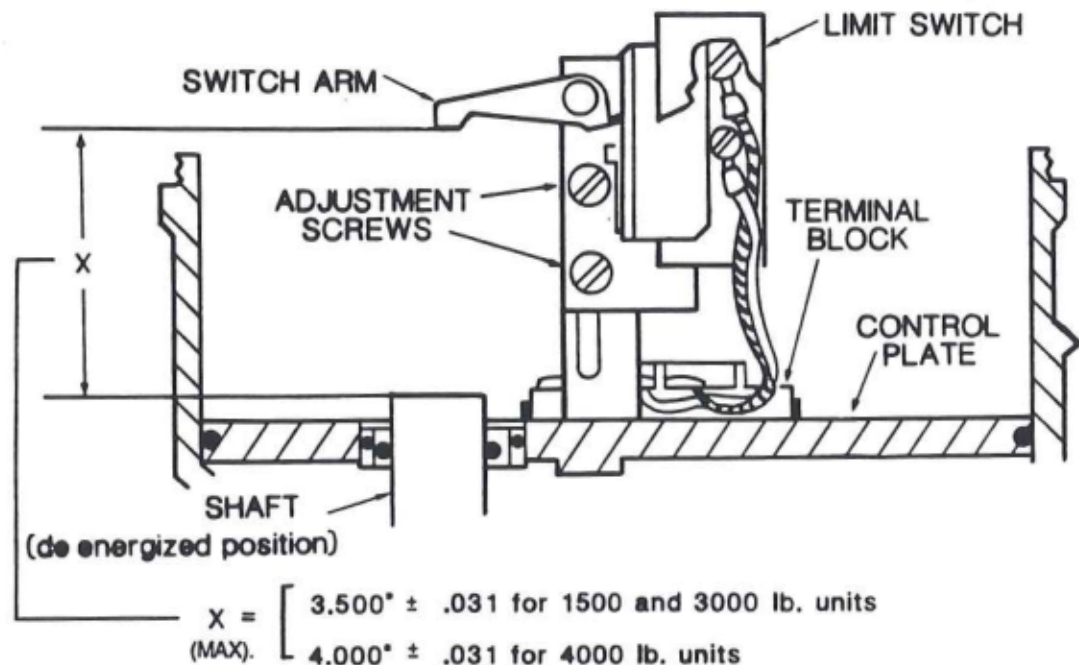

Figure 4-8. Limit Switch Adjustment
Refer to Figures 4-8 and 4-9 for reference to the Limit Switch Adjustment and Control Plate Assembly viewing.
- 1). With the Hydramotor shaft connected to the PCD and de-energized (fully extended ), raise the switch arm until the switch just clicks, and measure the distance between the top of the shaft and the switch arm (dimension X, Figure 4-8). This distance should be the stroke required for the PCD.